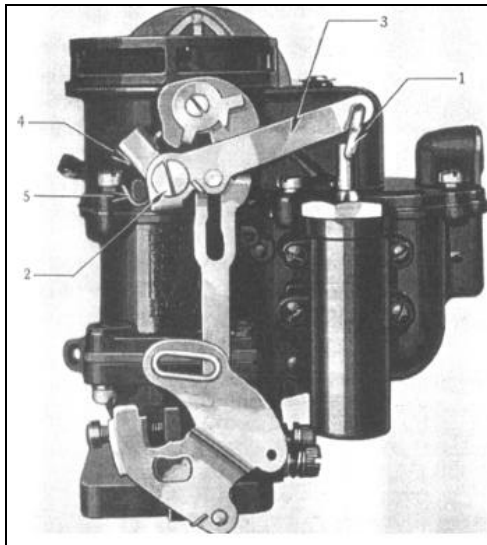

Figure 420
(89) Remove carburetor from motor. Use Tune-up Kit J-819-B. Remove pin spring and dash pot connector link (1), Figure 420.